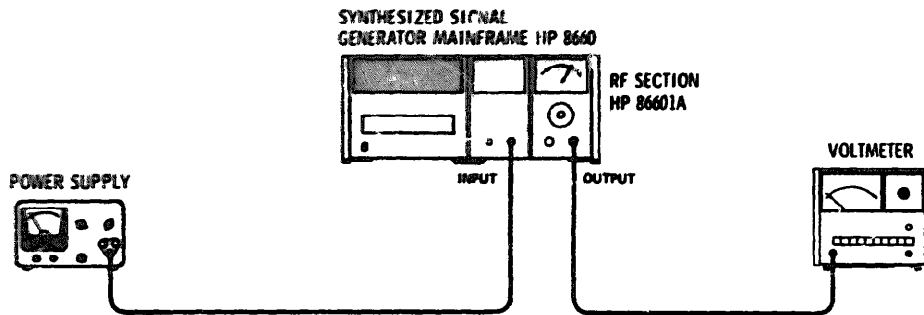

Figure 4-10. Amplitude Modulation ON/OFF Ratio Test Setup
1. Connect the equipment as shown in Figure 4-10 (with the Model 86631A AM switch off).